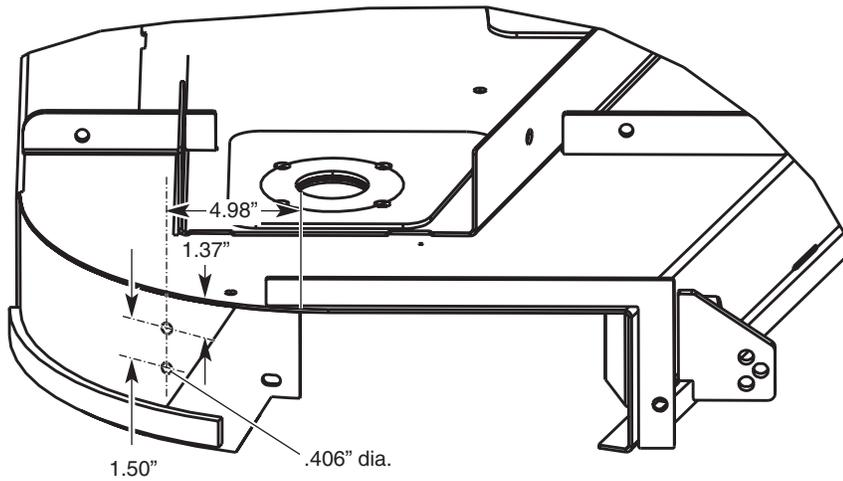

Fig. 4
2. Locate and scribe the cut line per Fig. 4, 5, & 6.